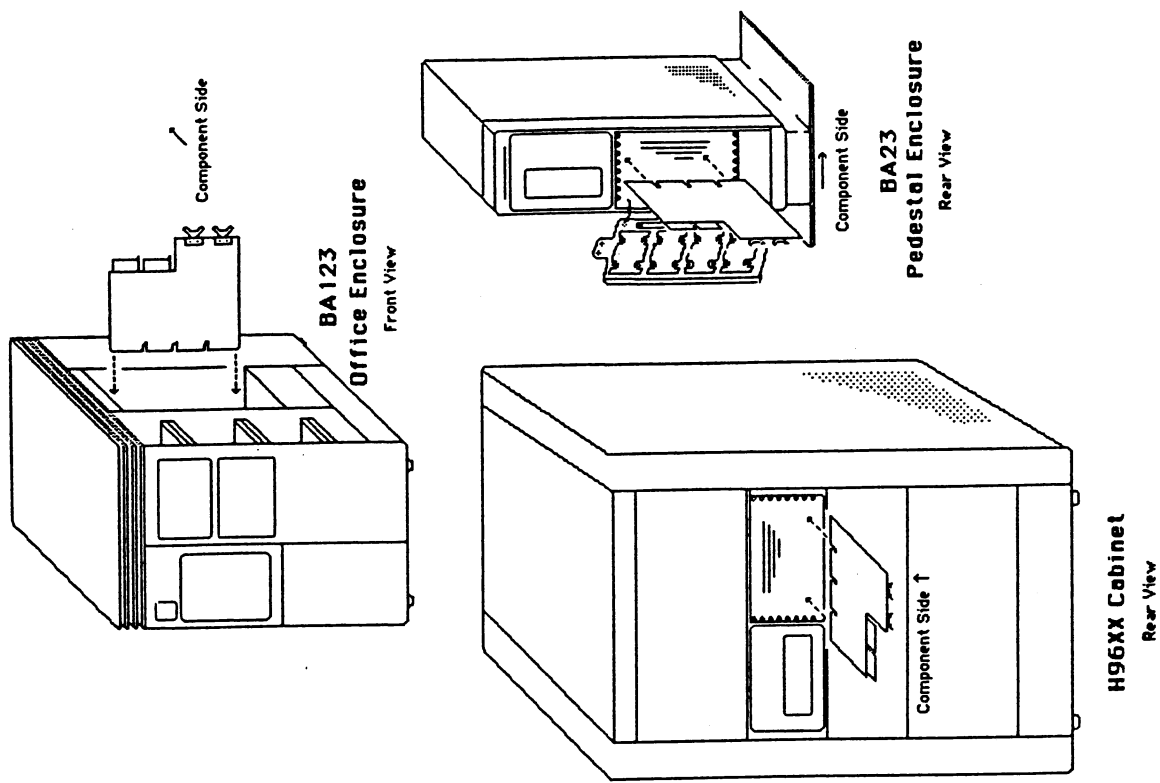

Figure 2-6: Installing the QNVERTER II Board into Q-Bus Systems
3. Insert the board into its slot orienting it in the direction of the existing modules. Lock it into place. See Figure 2-6.